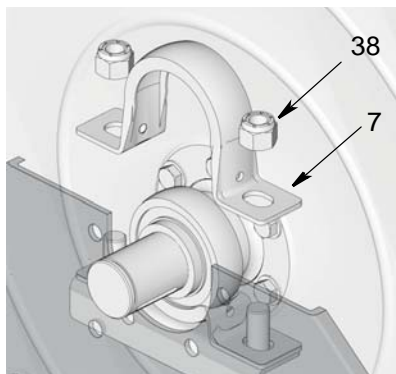

FIG. 40
- On the spring side, install retainer (7) and nuts (38).
- Torque nuts to 25 to 35 ft lbs (33.9 to 47.45 N.m) (FIG. 40).